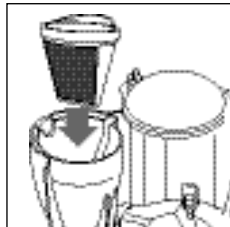

fig. 7
- In versions with a permanent filter, place the filter in the filter holder (Fig. 7). In other versions, use the #4 paper filter.